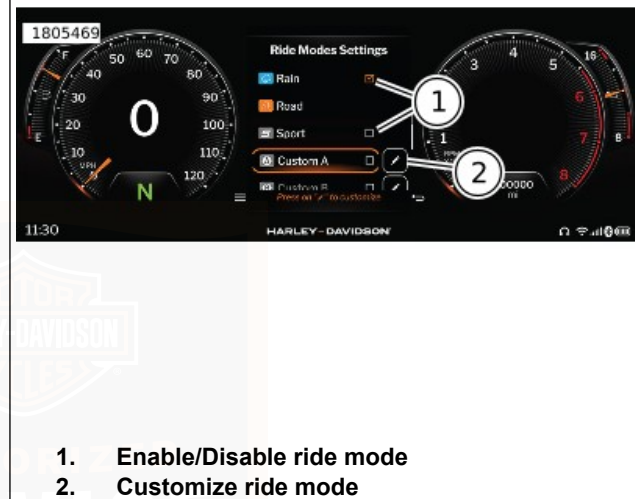

Figure 63. Ride Modes Settings
Figure 63 The list of ride modes selectable through the mode switch can be customized. To enable or disable a ride mode use the check box (1) next to each ride mode in the ride mode menu.